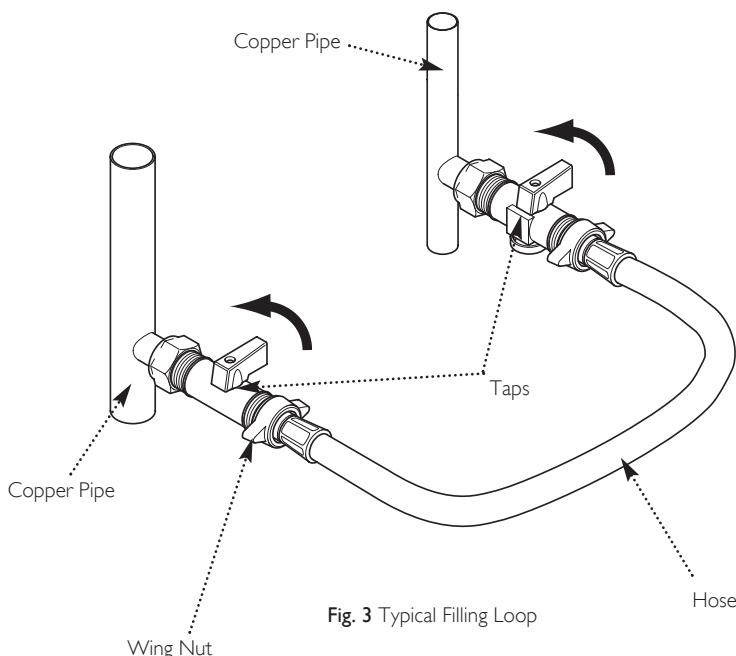

Fig. 3 Typical Filling Loop
4. The filling loop consists of two taps and a separate metal braided hose pipe (Fig. 3).